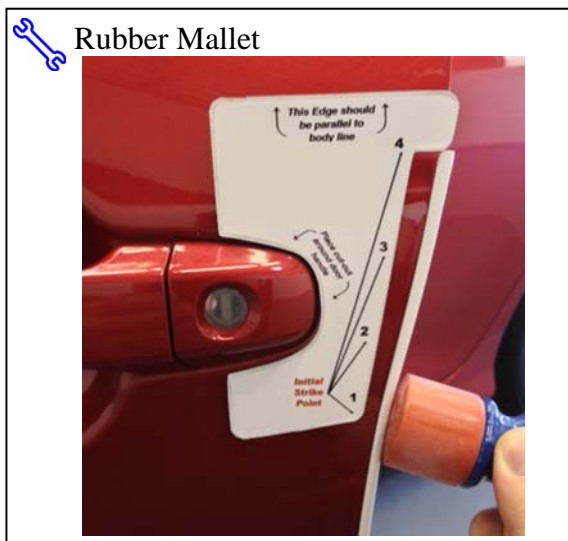

Fig. 2-5
- (3) While holding the DEG in proper alignment with one hand, use the **soft side of the rubber mallet** to begin tapping the channel onto the door edge starting at Striking Point #1, working your way to the top of the DEG (Fig 2-5). Ensure the top of the DEG is fully engaged on the door edge before proceeding to next step.